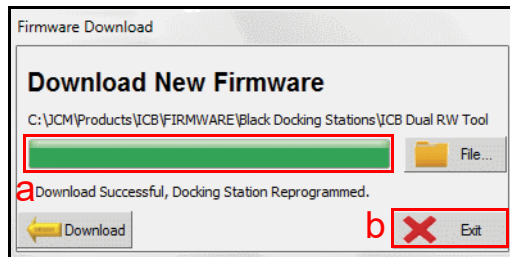

Figure 16 Firmware Download Successful
When the Firmware Download is complete, the DSA Firmware Download dialog box indicates Download Successful, Docking Station Reprogrammed (Figure 16 a).
- Click the Exit  screen button (Figure 16 b) to return to the DSA Main Screen.